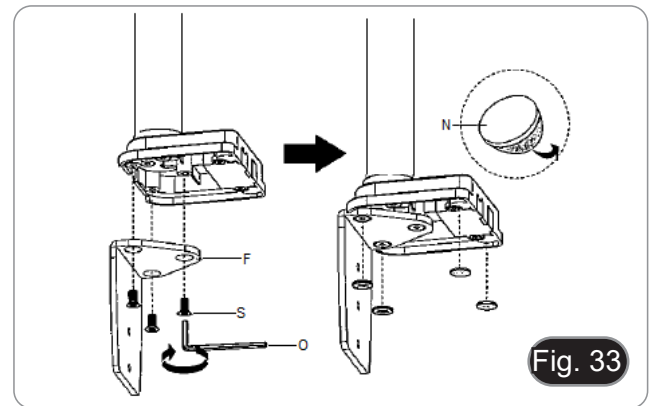

Fig. 33
2. Attach the clamp holder (E) to the table clamp (C) using the three screws (S). (Fig. 33)
3. Stick the rubber dampers (N) to the table clamp.